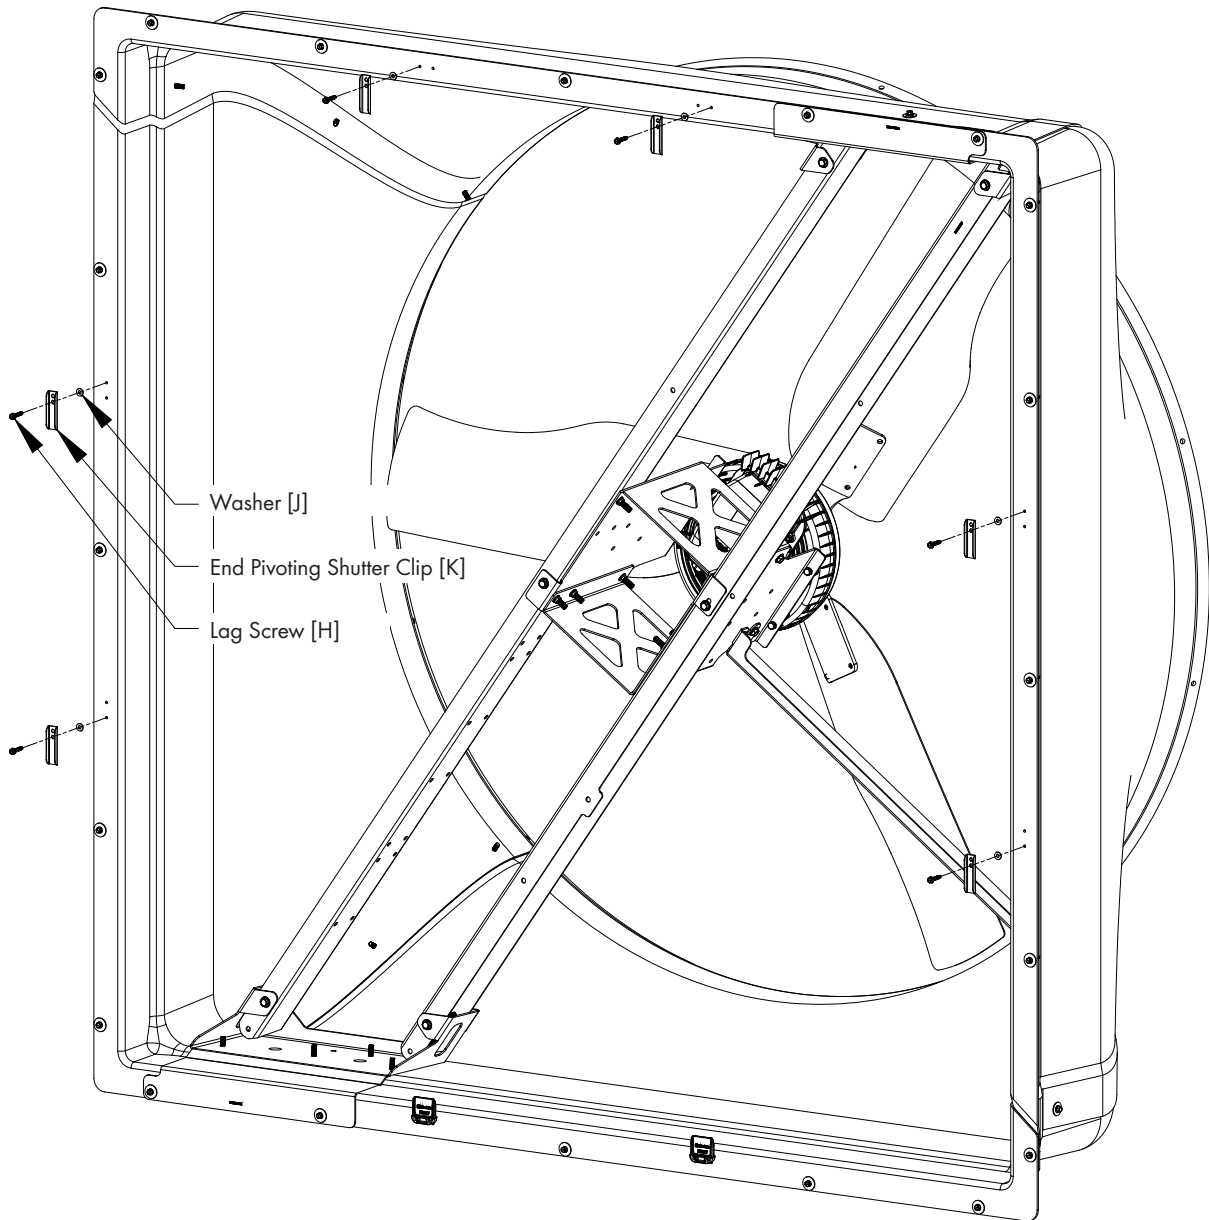

Figure 12
Install (6) End Pivoting Shutter Clips [K] at the pre-drilled shutter clip holes in the flange using (1) Lag Screw [H] and Washer [J]. The Washer should be mounted between the Shutter Clip and the flange. *See Figure 12.*